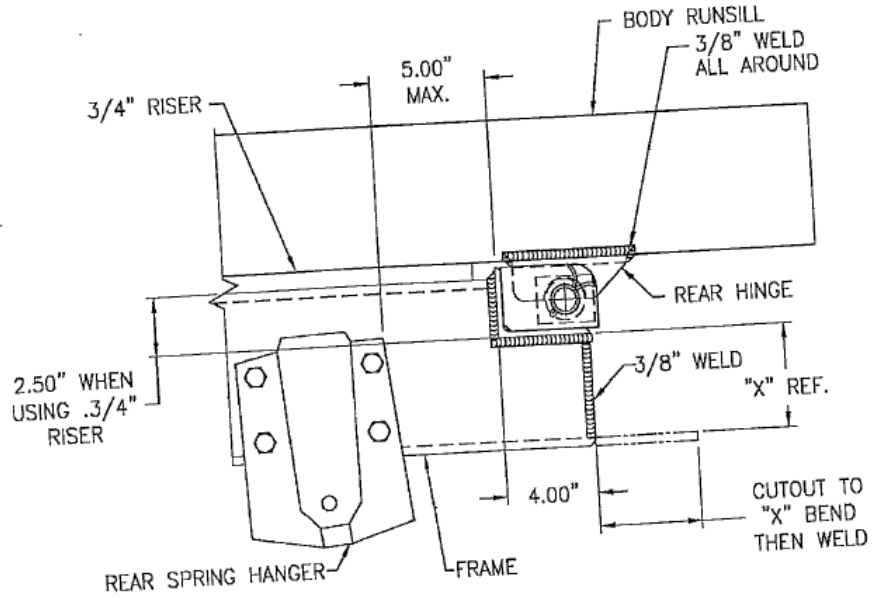

Figure 7
E. INSTALL REAR HINGE ASSEMBLY (See figures 7 and 8)